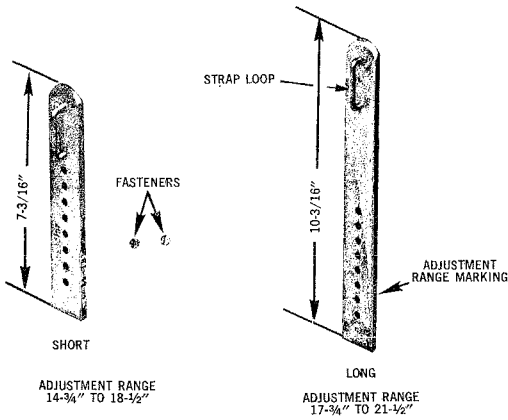

Fig. 3 — Sleeves for Adjustable Climbers
**2.03** Sleeves used with adjustable climbers can be adjusted in increments of 1/4 inch. They are available in two lengths. Fig. 3 illustrates these sleeves and the range of adjustments. Sleeves are attached to climbers by two set screws known as Fasteners except on the shorter sleeves from 14 3/4 to 15 1/2 inches and on the longer sleeves from 17 3/4 to 18 1/2 inches. On these adjustments, only one set screw is used for attachment. For these lengths, the wedging of the sleeve and leg iron provides a sufficiently tight fit of these parts.